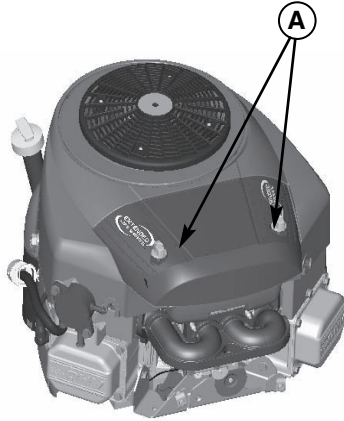

Figure 37. Air Filter Cover
1. Loosen the air filter cover screws (A, Figure 37) and remove the air filter cover.
6. Reinstall the air filter cover and tighten the screws (A, Figure 37).